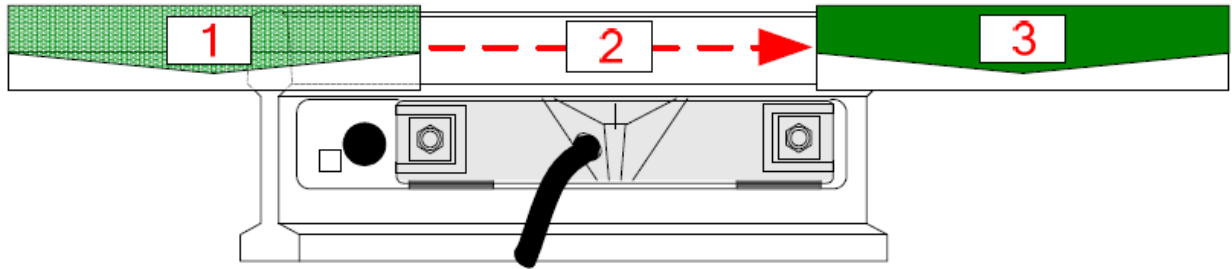

Figure 5 – Simulate Train
- 1.14 Simulate two train wheels passing over the sensor. To pass a simulated wheel, start with the test block in position (1) shown in the diagram below, pass through position (2) to position (3) before removing the test block. Note that the test block must be orientated as shown in figure 5, with the green metal plate on the side away from the rail head.